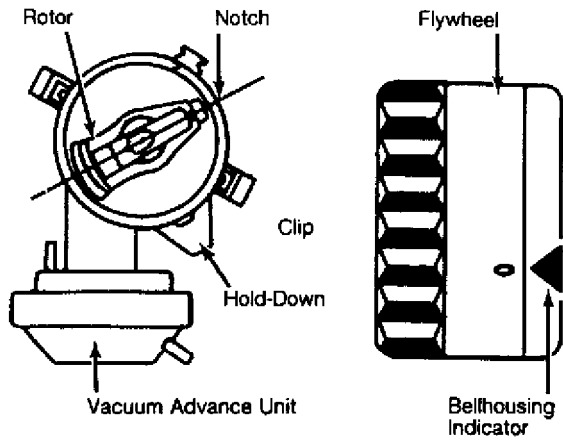

Fig. 2: Distributor & Flywheel TDC Alignment Points
1) Remove all drive belts, crankshaft pulley and vibration damper. Remove upper and lower timing belt outer covers. Remove camshaft cover from cylinder head. Turn crankshaft to position No. 1 piston at TDC compression. Make sure that distributor housing and flywheel timing marks are correct. See Fig. 2.